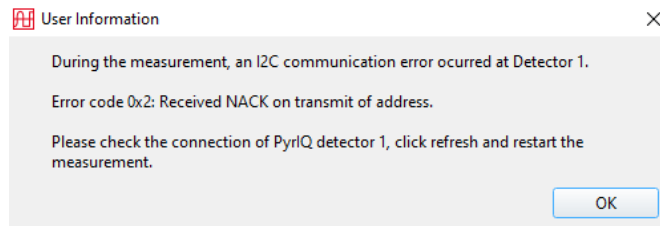

Fig. 26 Message when connection to PyrIQ Detector 1 is lost during DAQ
- A similar scenario occurs if a previously initialized detector is disconnected during the data acquisition. In this case, the user information shown Fig. 26 will appear.